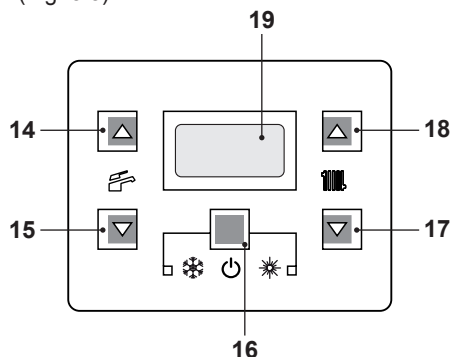
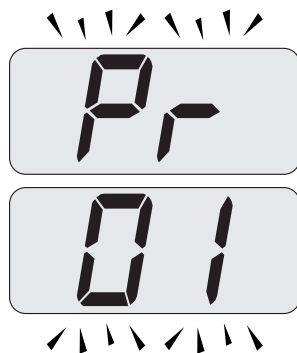

Fig. 8.7
Fig. 8.8
- Enter in "programming mode" by sequentially pressing and holding keys 16 - 17 - 18 (Fig. 8.7) for 10 seconds at the same time until the letters **Pr** that alternate with code 01 are displayed on the LCD display, indicating that "parameter 01", has been activated (Fig. 8.8).
- Press keys 16 and 18 (Fig. 8.7) at the same time until the value of parameter 15 (Fig. 8.10) is displayed on the LCD display.
- By pressing key 16 (Fig. 8.7) confirmation of the inserted value is obtained.
- Press keys 16 and 17 (Fig. 8.7) at the same time to exit without changing the value (return to the parameters list Fig. 8.9).
- Press sequentially keys, 16 - 17 and then 18 (Fig. 8.7) and hold in for 10 seconds to exit the "programming mode".
ing system can be increased or reduced by $\pm 15^{\circ}\text{C}$ by pressing the keys 17 (reduce) and 18 (increase) (Fig. 8.7).